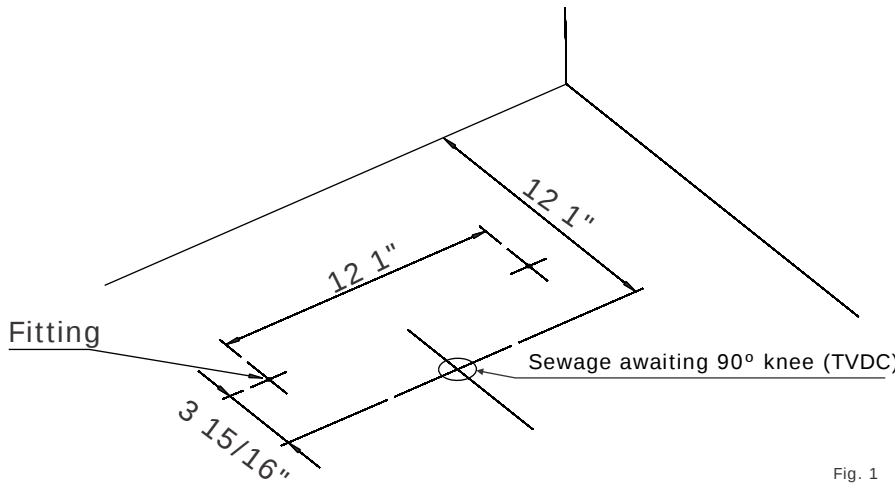

Fig. 1
- Mark the fitting holes according to Fig. 1, drill the holes on the floor with a 3/8" drill and place the adaptor sleeve S10 C (item 07).